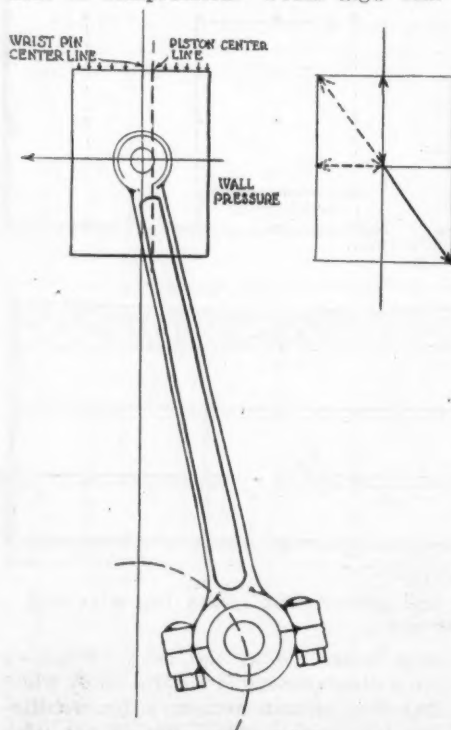

Fig. 1—Showing offset of Buick pistons
**1**—Buick sets the piston slightly to one side, as can be seen from the diagram in Fig. 1. The reason for the offset is to compensate for the reaction of the side thrust of the piston during the explosion stroke. When the piston is part way down on its power stroke all the power or pressure on the piston is transmitted to the connecting rod at an angle, which reacts against the piston wall in proportion to the angle at that moment, a mounting to a maximum at 45 deg. The only portion of this area is below the wrist pin. So by placing the largest area on the left side, the tendency is to tip the piston against the side thrust pressure and thus give a better equalized pressure.